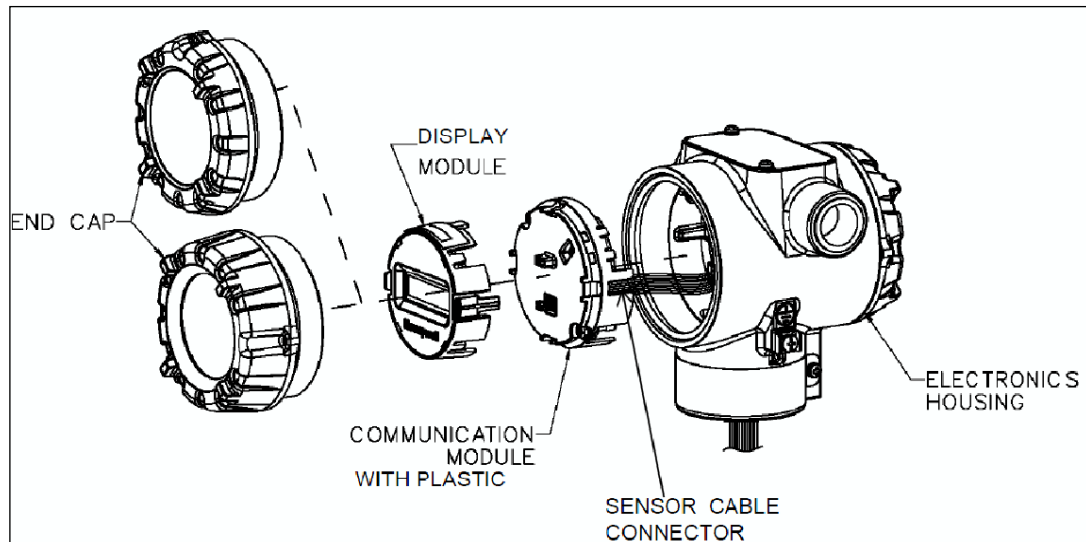

Figure 22 – Disassembly for Meter Body Replacement
4. Refer to Figure 22. Loosen the End Cap Lock, and unscrew the End Cap from the electronics side of the Transmitter housing.